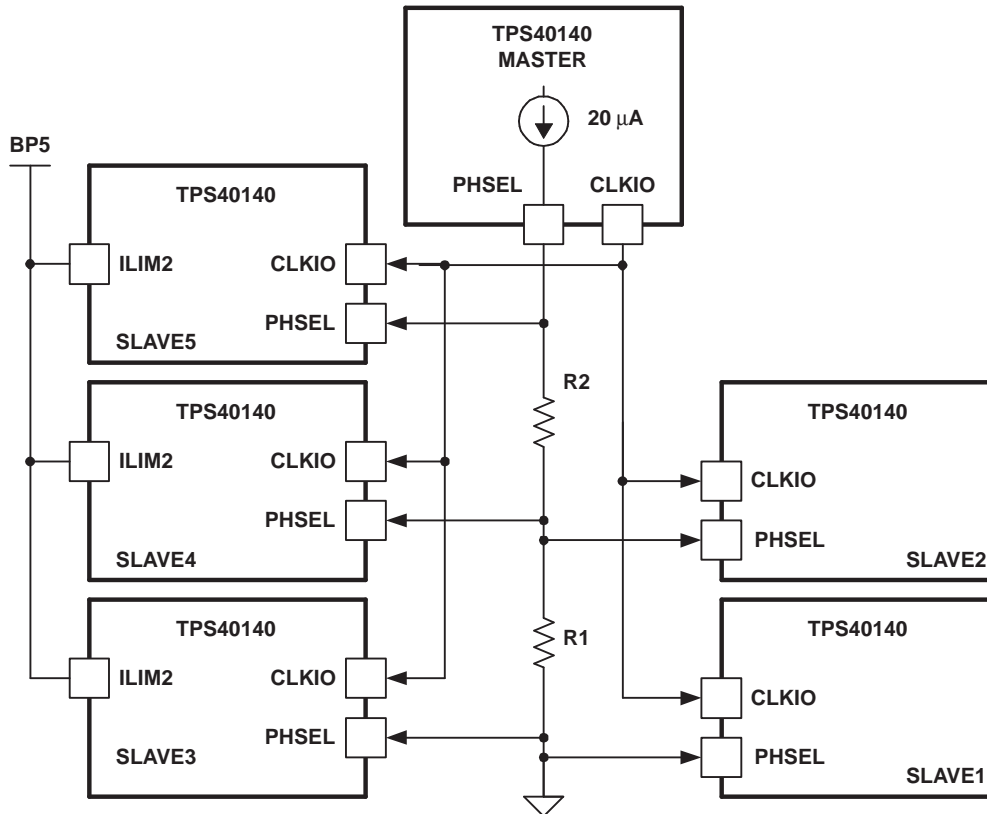
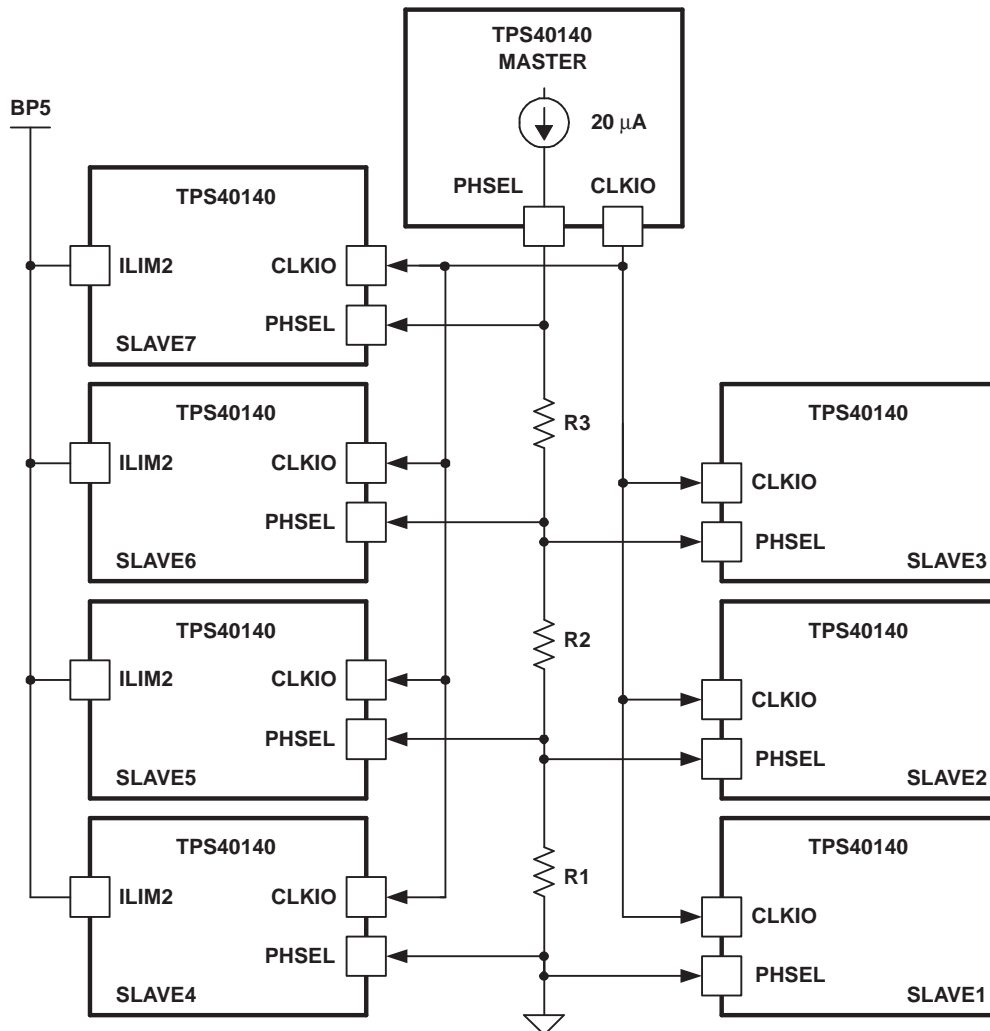
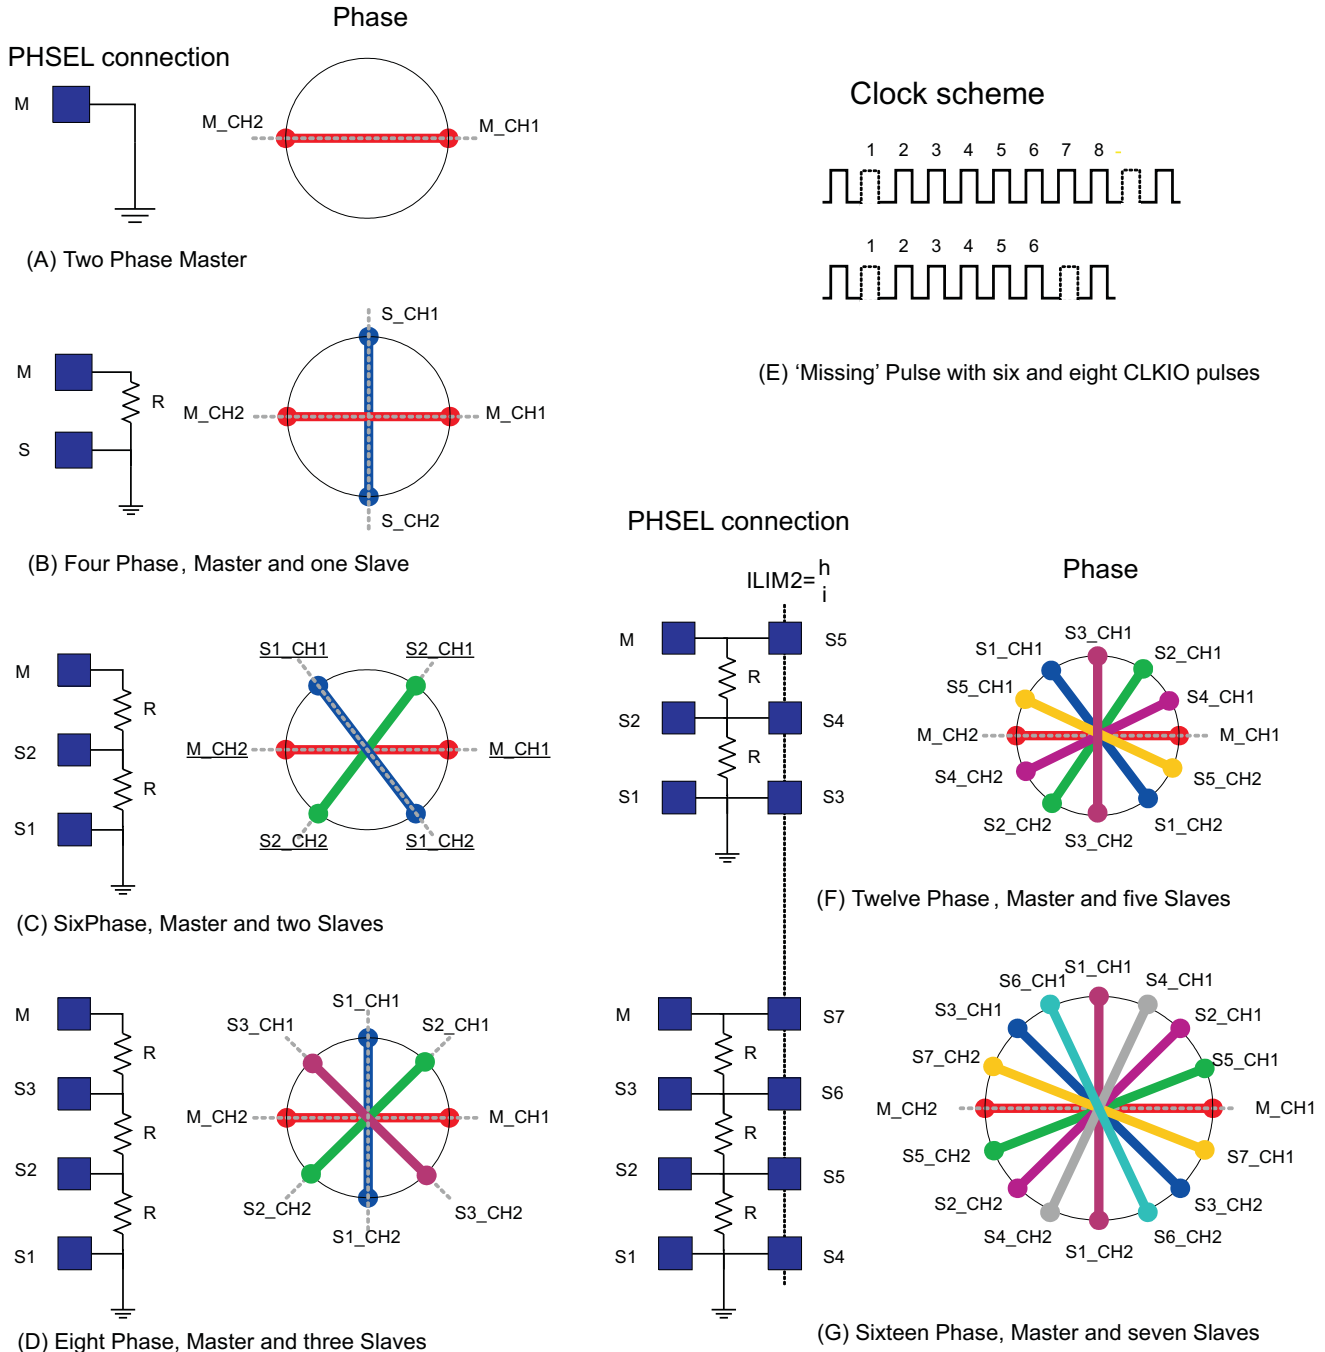

Figure 5-18. Master Controller and Five Slave Controllers, 12 Phases
Figure 5-19. Master Controller and Seven Slave Controllers, 16 Phases
Figure 5-20. Clock Phasing Summary
To further increase the total current capability to twelve phases, or to increase the number of outputs, five Slave controllers can be added as shown in Figure 5-18
If 4 Slaves are desired, just delete one of the Slaves from Figure 5-18. The interleaving will not be perfect because there will be 30 degrees between the Master and 3 Slaves. The deleted Slave will cause 60° between the 2 adjacent Slaves. See Figure 5-20 for phasing details.
To further increase the total current capability to sixteen phases, or to increase the number of outputs, seven Slave controllers can be added as shown in Figure 5-19.
In this configuration, the Master senses that there are three Slave controllers (due to the 3 resistors) and distributes an eight-phase CLKIO signal. Slaves 1, 2 and 3 are turned on at 45° and 90° respectively as before with 3 Slaves. However, to get 16 phases with an 8-phase clock, both edges of the CLKIO signal are used to control the slaves. With the ILIM2 tied high on Slaves 4, 5, 6, and 7 they turn on at the rising edge of CLKIO, while the Master and Slaves 1, 2, and 3 turn on at the falling edge of CLKIO. If 6 Slaves are desired, just delete one of the Slaves from Figure 5-19. The interleaving will not be perfect because there will be 22.5° between the Master and 3 Slaves. The deleted Slave will cause 45° between the 2 adjacent Slaves. See Figure 5-20 for a phasing details.
Figure 5-20 is a summary of the Master and Slave clock phasing. The Master and the Slaves can be selected to be a multi-phase, single output configuration and/or several independent output voltage rails, independent of the clocking.
The solid square boxes in Figure 5-20 represent the PHSEL pin of the Master (M) controller or a numbered Slave controller (S1-S7). The labels on the spokes of the wheels indicate a Master Channel 1 and Master Channel 2 (M_CH1 and M_CH2) and numbered Slaves Channel 1 and Slave Channel 2 (Sn_CH1 and Sn_CH2). The Channel 1 and Channel 2 of a given Master or Slave is always 180° out of phase.
The 3-phase system could also be configured with 1 channel of the Master and 2 channels of the Slave. Referring to part (B) above, the 3 phases could be Master CH1 or Master CH2 and Slave CH1 and Slave CH2. In either of these configurations there will be 90° between two of the channels and 180° between the other channel. The unused channel could be another independent output voltage whose clocking would occupy the phase not used in the 3-phase system. This philosophy can be used for any number of phases not shown in Figure 5-20, *Clock Phasing Summary*.